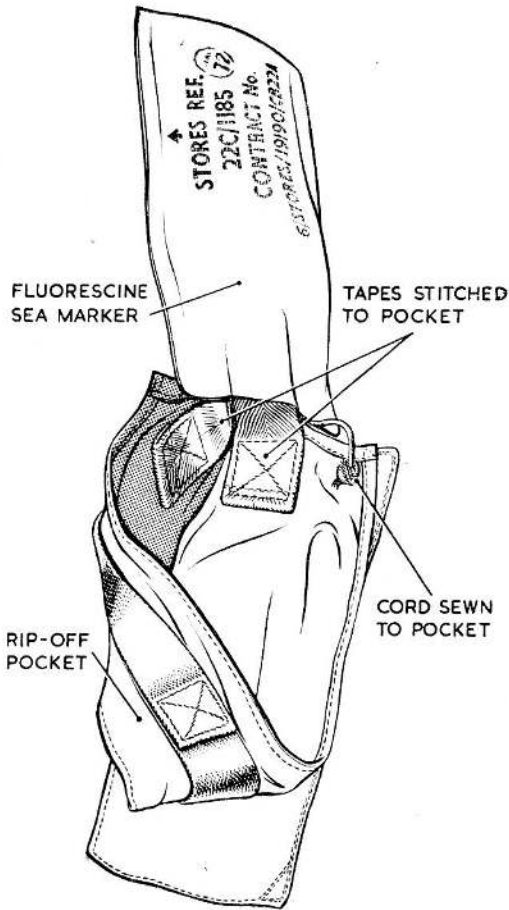

Fig. 9. Attachment of sea marker to pocket
34. Stitch the cord on the fluorescine sea marker firmly to the life jacket (fig. 9) Stitch one of the tapes at the top of the marker to the life jacket and the other to the top of the rip-off pocket, using 50/3 cord linen or a suitable equivalent linen thread. There should be 8-12 stitches per inch, and the ends of the thread must be securely fastened off. Sew down the free sides of the pocket with scarlet locking thread (5 stitches to the inch).